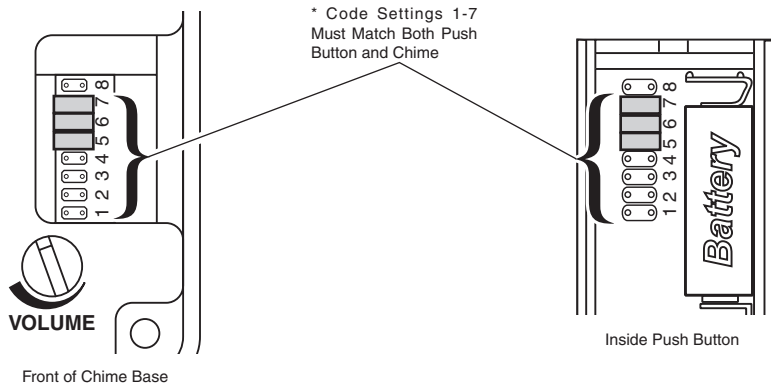

Figure 10
- Make sure push button and chime codes are the same (see Figure 10).
1. Open the cases and locate the jumpers on both the push button and chime (see Figure 10).
Note: Unit will come factory set with jumpers in locations 5, 6, and 7 on the push button and on the chime (see Figure 10).